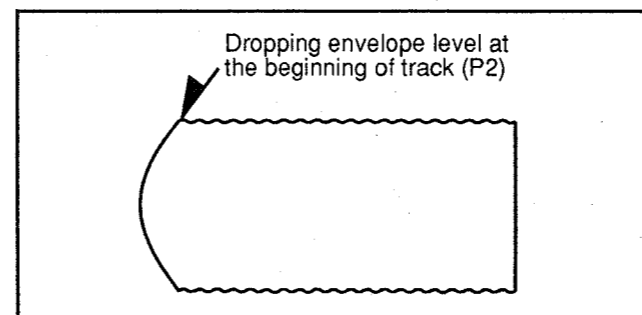
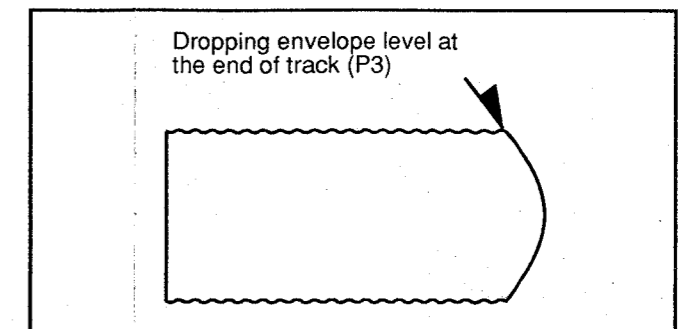
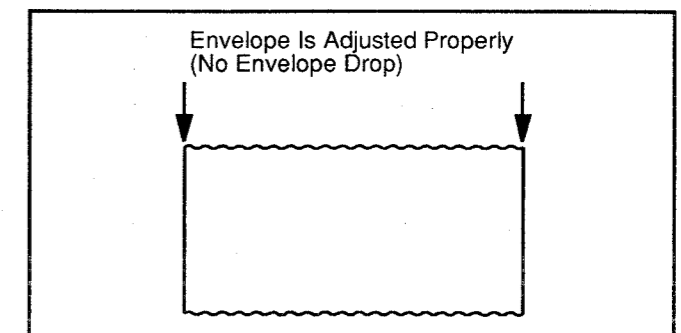

Fig. M17-2
Fig. M17-3
Fig. M17-4
3. When the scope display is as shown in Fig. M17-2, adjust the height of P2 so that the waveform looks like the one shown in Fig. M17-4.
4. When the scope display is as shown in Fig. M17-3, adjust the height of P3 so that the waveform looks like the one shown in Fig. M17-4.
5. When P2 and P3 are adjusted properly, there is no Envelope Drop at the beginning or end of the track as shown in Fig. M17-4. Remove the jumper wire.
shown in Fig. M17-3, adjust waveform looks like the one